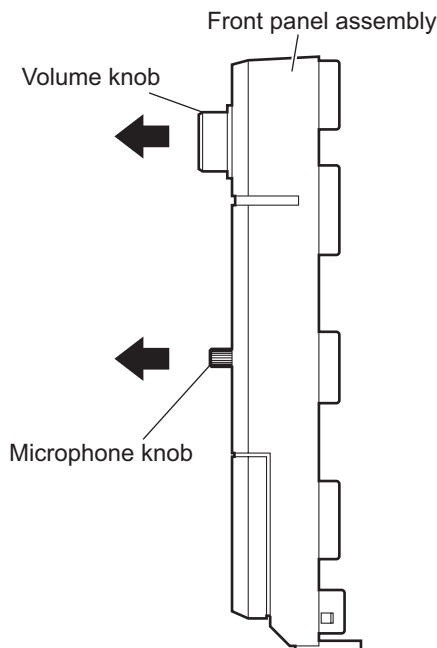

Fig.22
(See Figs.22 and 23)
- From the front side of the front panel assembly, pull the volume knob out of the front panel assembly. (See Fig.22.)
(See Figs.22 to 24)
- From the front side of the front panel assembly, pull the microphone knob out of the front panel assembly. (See Fig.22.)